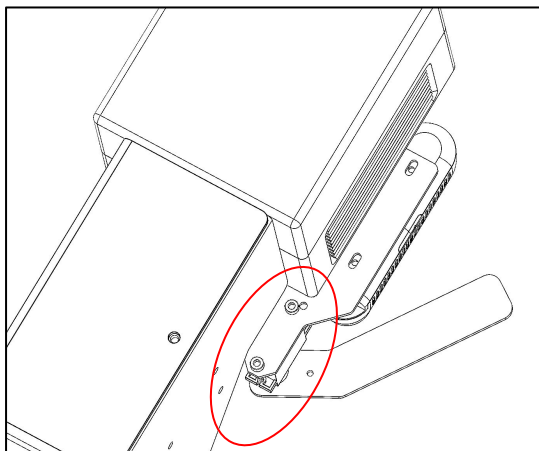

Fig. 28
4. Remove the screws holding the motor in place (see Fig. 28).